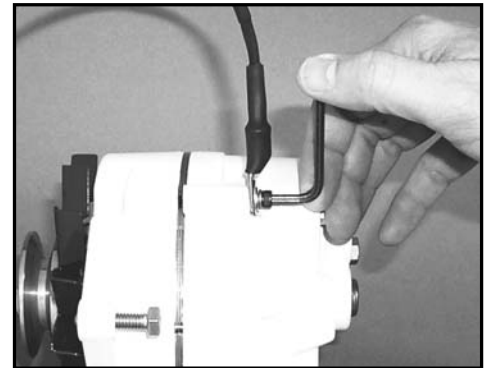

Figure 3 - Optional Alternator Temperature Sensor.
- Attach optional Alternator Temp Sensor to the Alternator Temp Sensor terminals shown in Figure 5. **OBSERVE POLARITY.** Attach sensor to alternator case as shown in Figure 3.